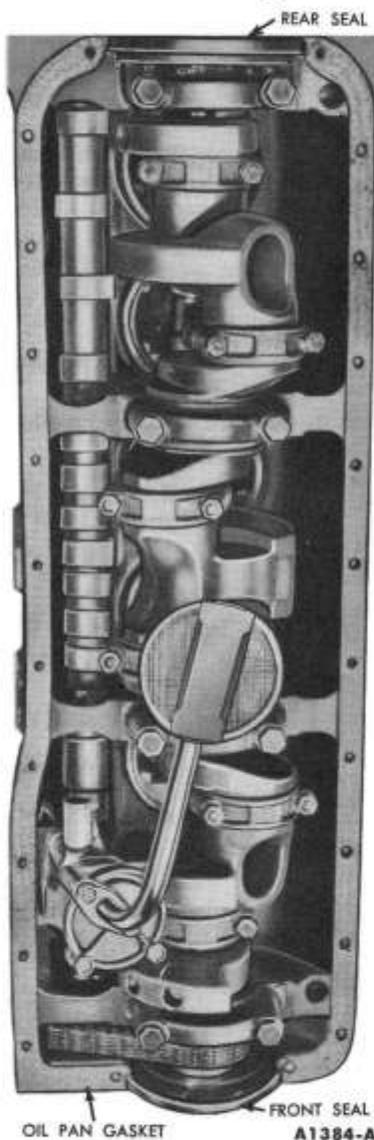

FIG. 72—Oil Pan Gasket and Seals Installed
2. Clean the gasket surfaces of the block and oil pan. The oil pan has a two-piece gasket. Coat the block surface and the oil pan gasket surface with sealer. Position the oil pan gaskets on the cylinder block (Fig. 72).
3. Position the oil pan front seal on the cylinder front cover (Fig. 72). **Be sure the tabs on the seal are over the oil pan gasket.**
4. Position the oil pan rear seal on the rear main bearing cap (Fig. 72). **Be sure the tabs on the seal are over the oil pan gasket.**